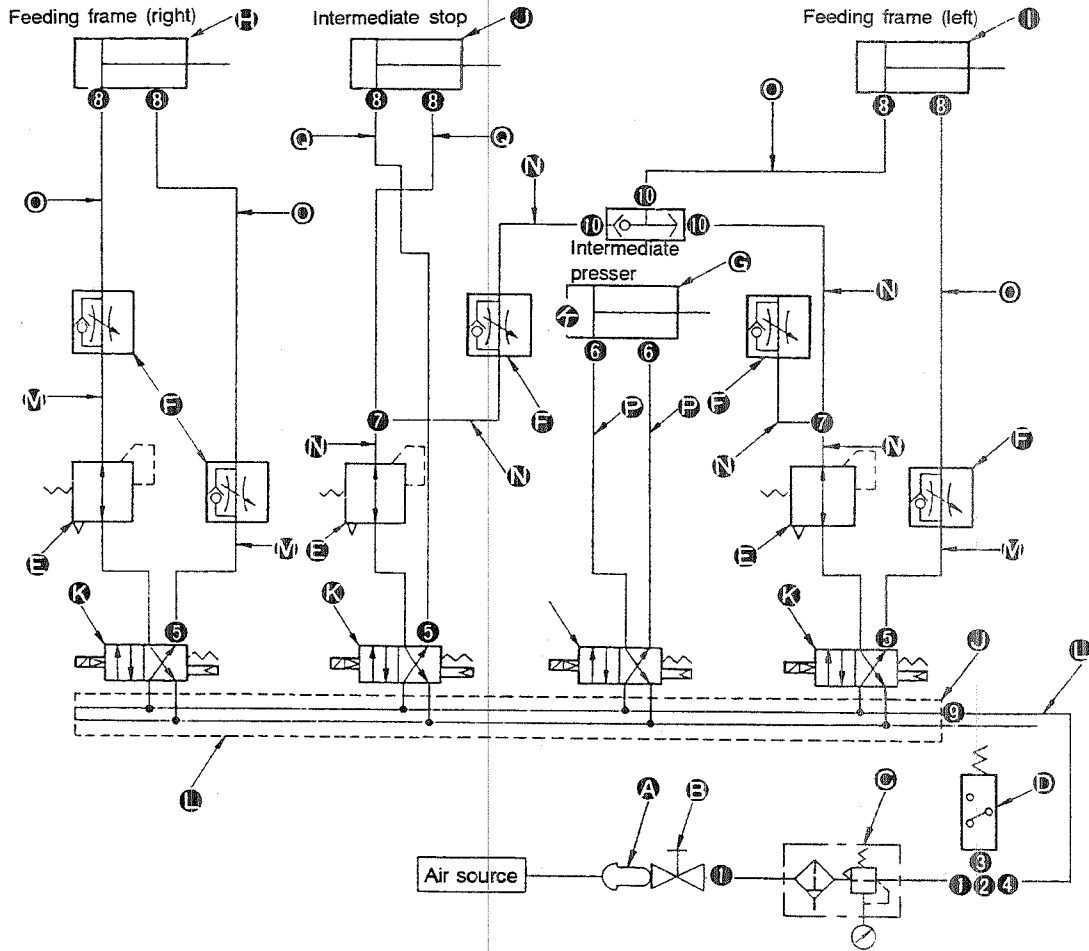

Fig. 4-6-1
<p>Connect the pneumatic components properly referring to the schematic diagram (Fig. 4-6-1) and Disassembly/assembly procedure (10).</p> <p>* "(42) Connecting the pneumatic components" of Chapter 1 (S type) describes how to read the schematic diagram. So, refer to the description given there, if necessary.</p>	<ul style="list-style-type: none"> o Malfunction of the feeding frame components and intermediate presser components may occur, resulting in machine failure or giving damages to the related components.